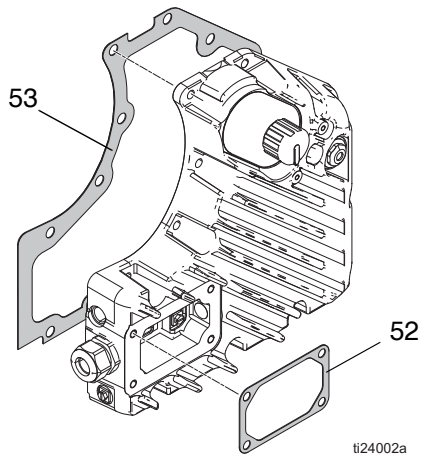

Fig. 35: Electronics Cover and Junction Box Gaskets
1. Install the new cover gasket (53) (included in the electronics cover kit). See FIG. 35, page 29.